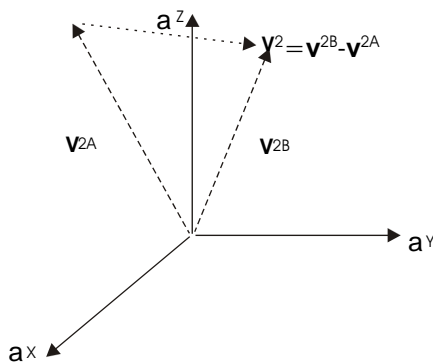

Figure 2. Vector addition
2. $\mathbf{v2}$ is the difference between the two position vectors, see Figure 2. Enter $\mathbf{v2b} - \mathbf{v2a} \rightarrow \mathbf{v2}$ as shown in screen 9.